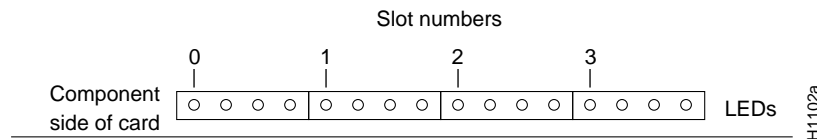

Figure 4 CSC-CCTL LED Indicators—Partial Front-Edge View
Figure 4 illustrates the LEDs that are on when a card is present in a corresponding ciscoBus slot. (The orientation of Figure 4 is looking at the front edge of the card installed in the card cage.) The numbers above each LED indicate the ciscoBus slot number. Depending on the slot in which the ciscoBus card is installed (slot 0 through 3), the corresponding LED will be on to indicate a card in that slot. Some ciscoBus cards have appliques that require power from the card to which they attach. If these appliques are not connected correctly, the corresponding LED on the CSC-CCTL will be off. All other LEDs are momentarily on at power up, but are not currently used.
Step 4 Check the four LEDs on the CSC-CCTL. (See Figure 4.) Ensure that each LED is on for each ciscoBus slot occupied by a ciscoBus card; the ciscoBus controller LEDs are off for ciscoBus slots that contain Multibus cards. If any LEDs are not on that should be, do the following: